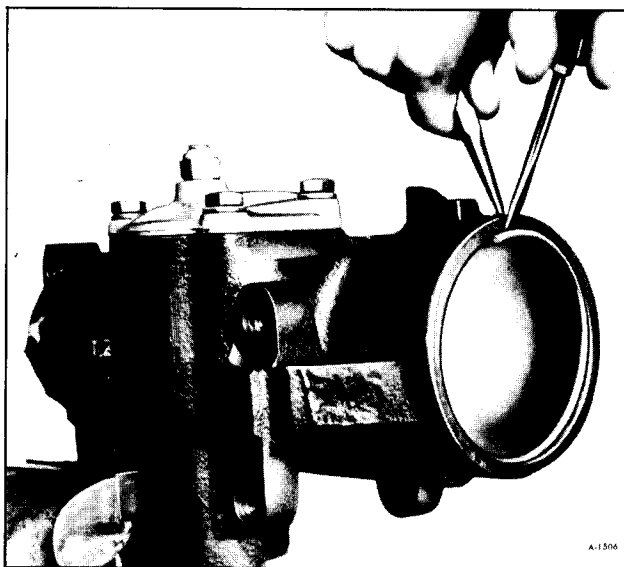

Figure 26—Removing End Cover
1. Rotate end cover retainer ring so that one end of the ring is over the hole in the side of the housing. Force the end of the ring from its groove and remove ring (figure 26).